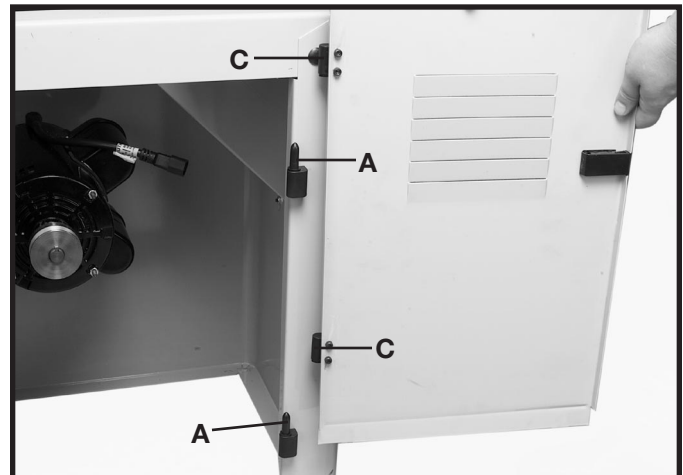

Fig. 21
11. Slide the two hinges (C) Fig. 21, on the door, over the two hinge catches (A) on the stand.